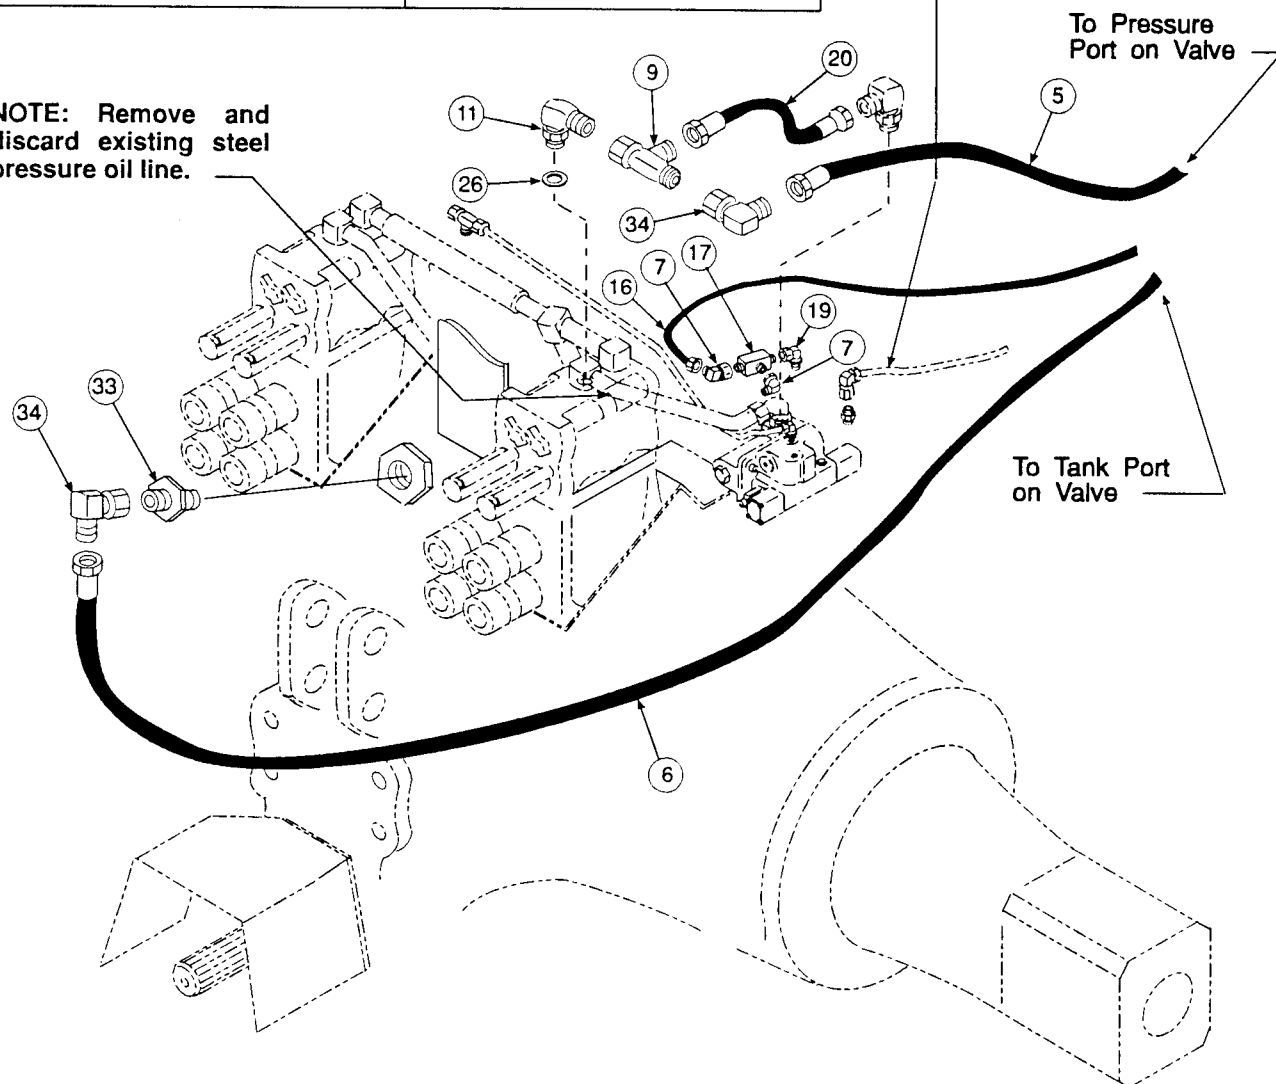

Figure 3
ATTACHING VALVE TO VALVE MOUNTING BRACKET (Figures 3 & 4)
PLUMBING CONTROL VALVE TO TRACTOR HYDRAULICS (Figures 3 & 4)
1. Remove and discard existing steel pressure tube which feeds right bank of hydraulic valves (Figure 3).
2. Install washer (26), 7/8 x 90° degree elbow fitting (11), and 7/8 tee (9) to pressure port on top of existing hydraulic valve. Point elbow fitting (11) toward right. Point tee (9) toward front and approximately 45° downward. Install 90° elbow fitting (34), 1/2 x 84 hose (5) and 1/2 x 11 hose (20) to 7/8 tee (9) as shown (Figure 3).
3. Connect 1/2 x 11 hose (20) to existing 90° elbow fitting on three point distributor valve (where original steel pressure tube was connected).
7. Install 1/4 x 78 load sense hose (16) to 7/16 x 90° elbow fitting (7) and 7/16 adapter fitting (36) on auxiliary valve (1).
8. Remove and discard banjo plug on hydraulic filler tube. Install 3/4 x 7/8 adapter (33), 7/8 x 90° elbow (34) and 1/2 x 96 hose (6) (Figure 3).